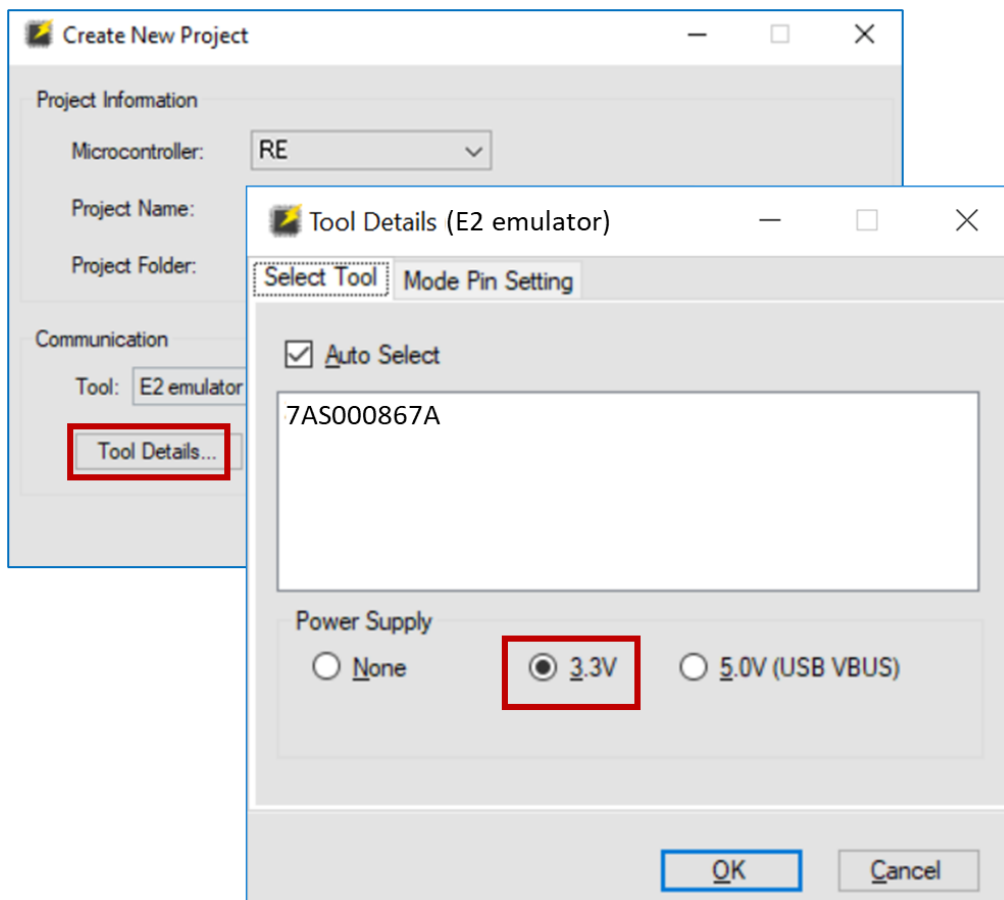

Figure 4-6: Select 3.3V in the tool details on the RFP screen
3. go to File > Create New Project, select Microcontroller as RE, name the project and select "E2 emulator" in Tools. Make sure that 3.3V is selected in the tool details. See Figure 4-6.